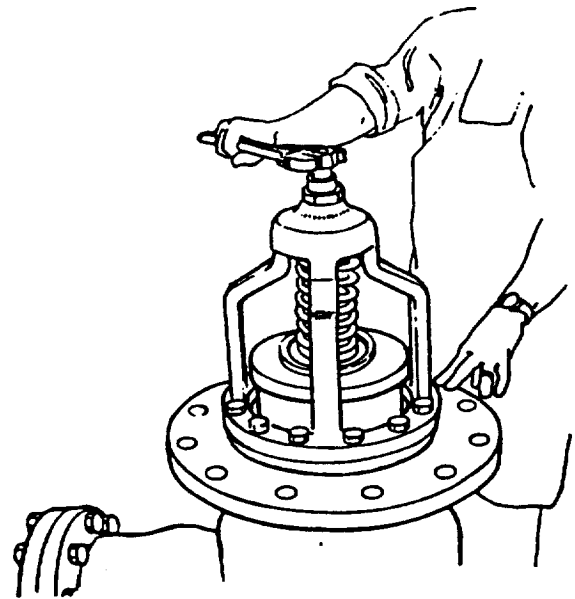

FIGURE 33
- a. Remove the valve stem nut (1) and valve stem (8) (Fig. 33).